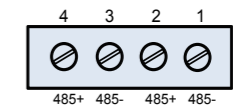
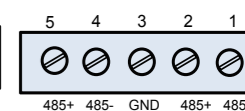

Figure 4 RS485 communication port
Figure 5 RS485 communication port
Note: Figure 4 is the communication port of H2U-XP. Figure 5 is the communication port of H2U-1010M_XP. COM2 is the COM0 of H2U.
- 3) (JP0 disconnected): PLC side is RS485 and PC side is RS485. They are connected through the terminal as shown in Figure 4. The connecting cable is determined by the user.
COM1/COM2 hardware is standard RS485 and is interface terminal. For definition of COM1/COM2, see Figure 4. They are connected to other devices via on-site wiring by the user. Both support the half-duplex communication mode only. COM3 of H2U-XP can be available through extension card.